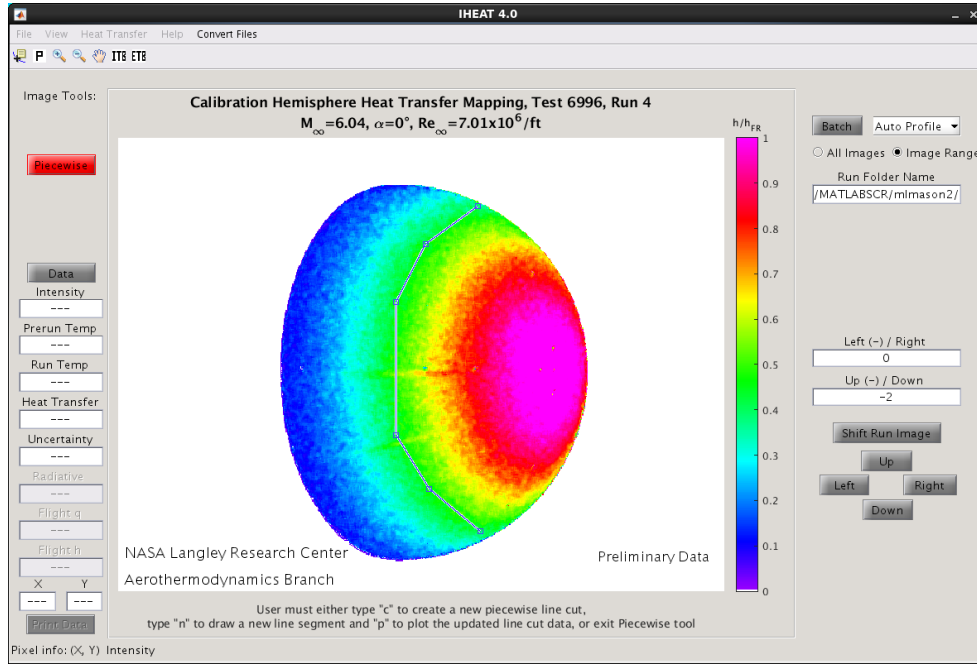
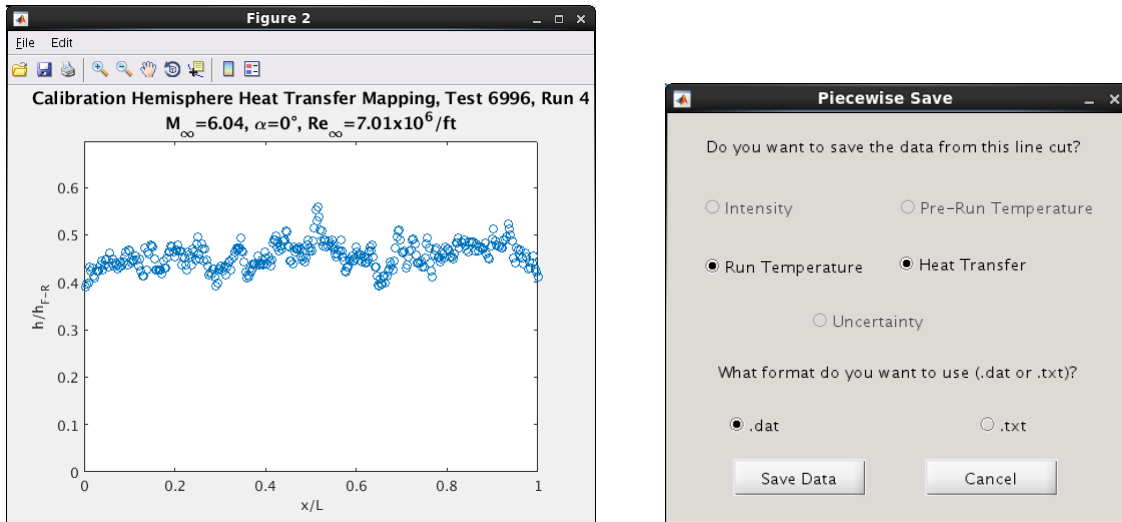

Figure 17: Image Tools, *Piecewise*.
Figure 18: Image Tools, *Piecewise*: Line Cut Data and Save Dialog.
2. *Piecewise*: Another feature of IHEAT v4.0 is the *Piecewise* tool, demonstrated in figure 17. This tool is similar to the *Length* tool, but allows the user to create a segmented line cut. The message below the image tells the user to press “n” to create a new line or “p” to plot the line cut data. When a new line is created, the user can left click on the end of the current line and drag the mouse to another position to define the new line segment. If “n” is not pressed after a line is drawn, clicking and dragging the final endpoint of the most recent line segment will change the position of that line segment on the image. Only the position of the newest line segment can be modified; all of the other line segments remain stationary. If the last line segment is one pixel long, this segment is automatically deleted before the data is plotted. A *Piecewise* line cut can contain any number of line segments.
The heat transfer data in figure 18 is extracted from the *Piecewise* line cut in figure 17 when “p” is pressed. The x/L dimension extends from zero at the first endpoint to one at the last endpoint along the overall segmented line. Once the data has been plotted, the message below the image changes to tell the user to either exit the *Piecewise* tool or press “c” to create a new *Piecewise* line cut. The *Save* dialog box shown in figure 18 must first be closed before a new line cut can be created or the tool can be exited. The user also must